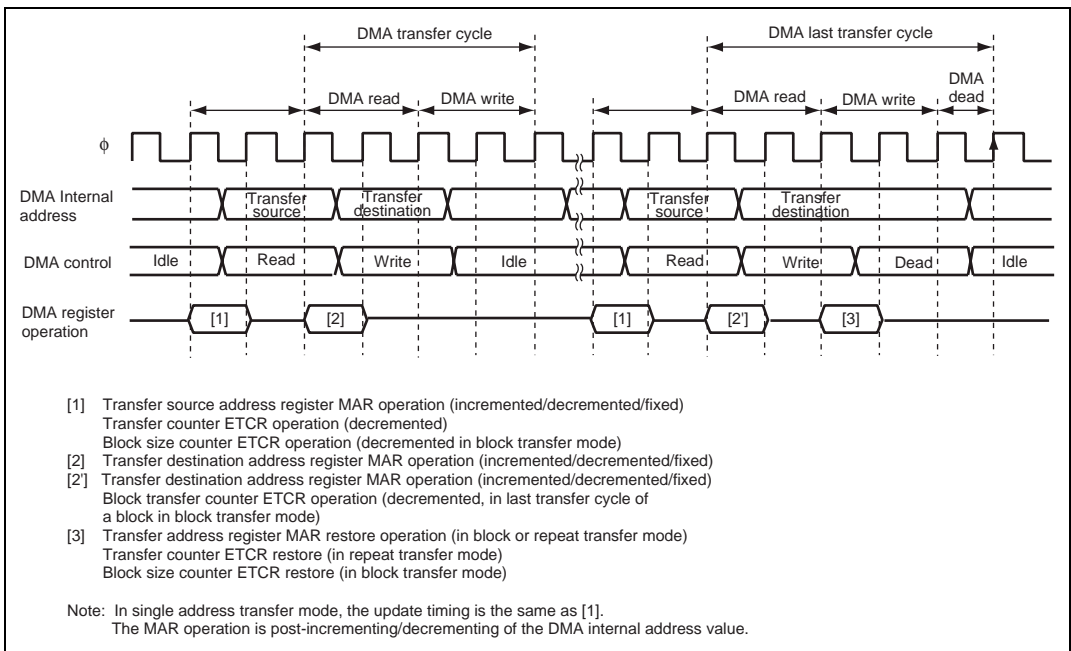

Figure 8.38 DMAC Register Update Timing
- DMAC control starts one cycle before the bus cycle, with output of the internal address. Consequently, MAR is updated in the bus cycle before DMA transfer. Figure 8.38 shows an example of the update timing for DMAC registers in dual address transfer mode.